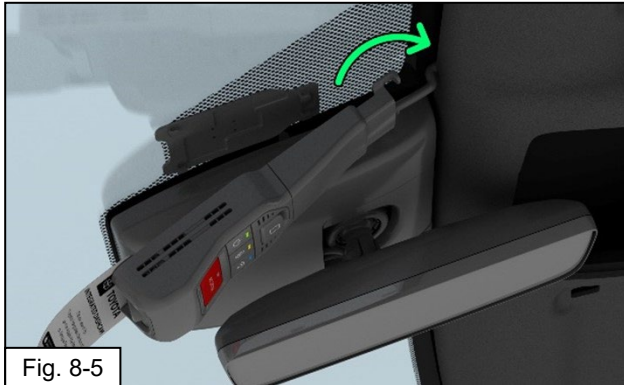

Fig. 8-5
- (a) Hook the Dashcam wire extension cover hooks into the leading edge of the headliner. (Fig. 8-5)